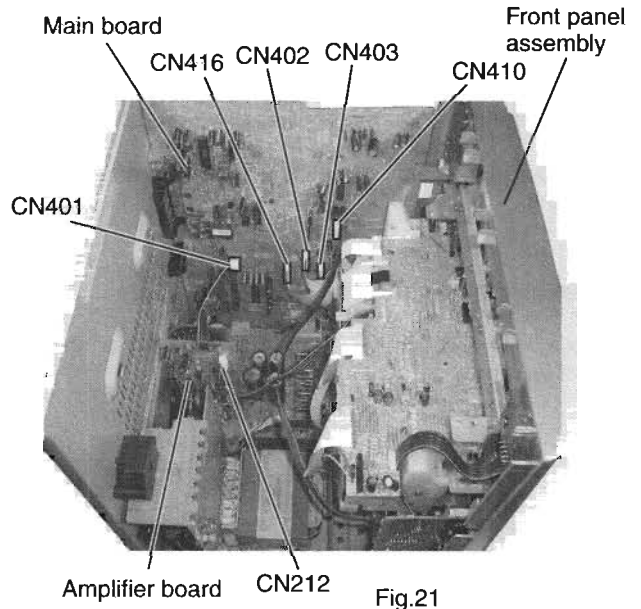

Fig.21
■ **Removing the Main Board** (See Fig.21 and 22)
■ **Removing the Rated Voltage Board and Power Amplifier Board** (See Fig.21, 23 and 24)